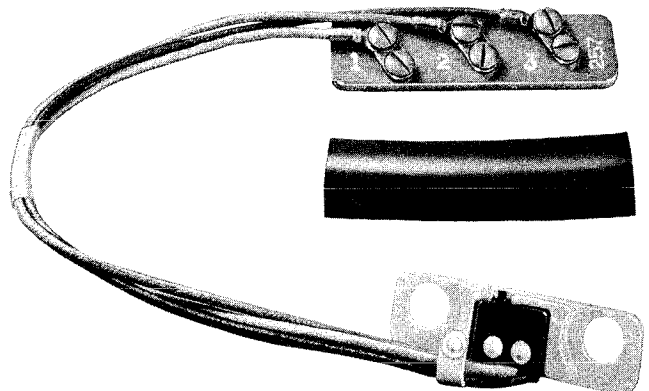

Fig. 4—257A Alarm Switch Assembly
2.10 The 257A alarm switch assembly (Fig. 4) consists of a single-pole double-throw sensitive subminiature switch, mounted on a bracket and wired to three terminals on a terminal block.
2.13 Connections are made to the terminal block as determined by the local operating company. After the connections are made, slide the insulation sleeving, shown in Fig. 4, over the terminal strip to prevent shorting.